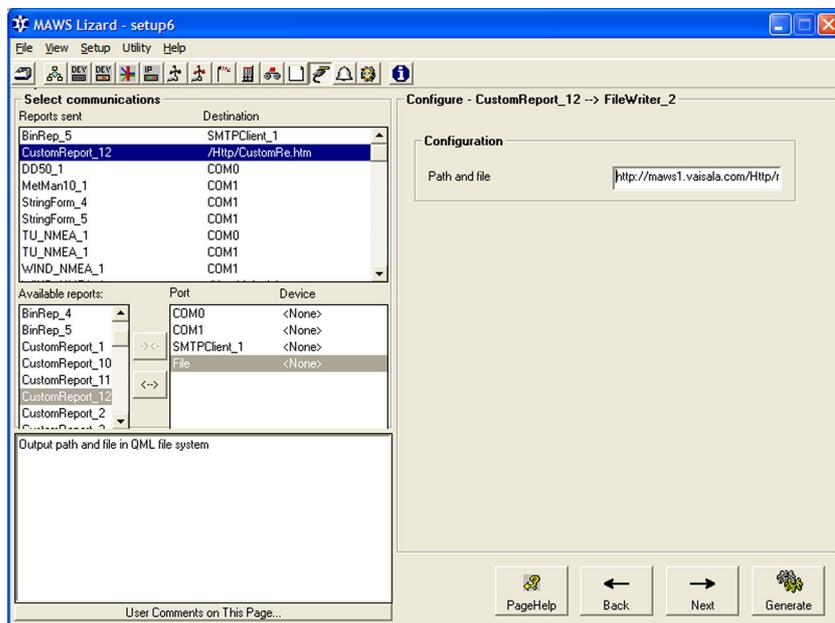

Figure 117 Linking Custom HTML Report to File Port
9. Once you have created your report, link it to the **File** port in the **Communications** view as shown in Figure 117 on page 259.